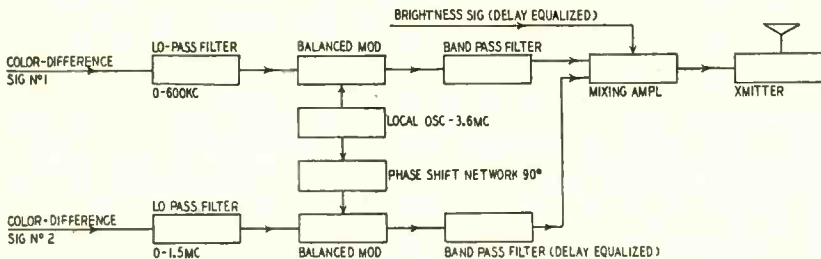

Fig. 1—Block diagram shows layout of transmitter color-handling circuits.
The output of the balanced modulator is fed to a mixing amplifier along with the brightness signal as shown in Fig. 1. The output of the mixing amplifier—which consists of both the brightness and color signals combined—is then used to modulate the transmitter.
Fig. 1 is a block diagram showing how the frequency of the color signal can be shifted to the desired portion of the channel. For purposes of explanation we will confine ourselves to the 3.6-mc oscillator and will assume that only the narrow-bandwidth color-difference signal (1) is involved. Later